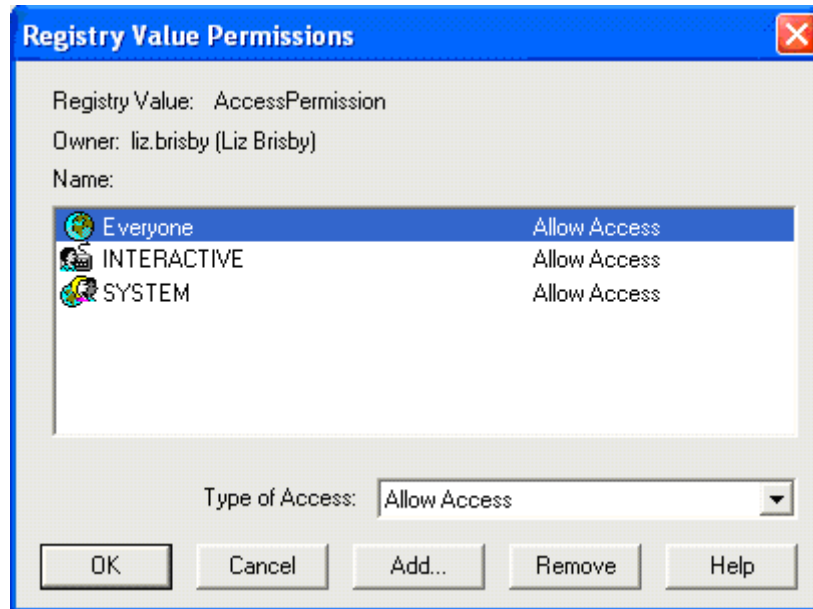

Figure 43 - Registry Value Permissions Window
8. The **Registry Value Permissions** window (Figure 43) appears.